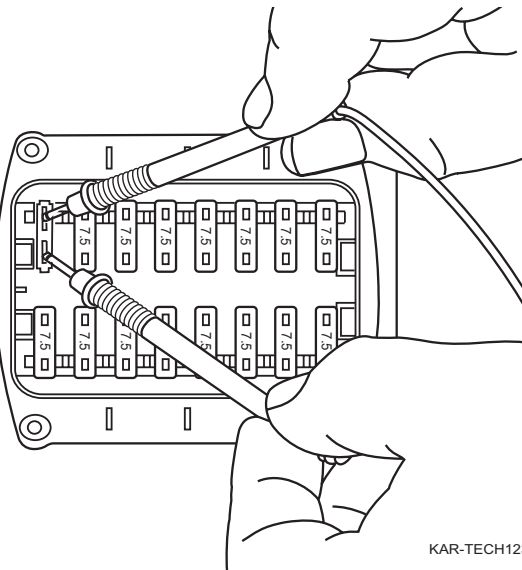

Figure 49
3. Use an amp meter to measure the amperage across the fuse terminals (Figure 49) on the power board.